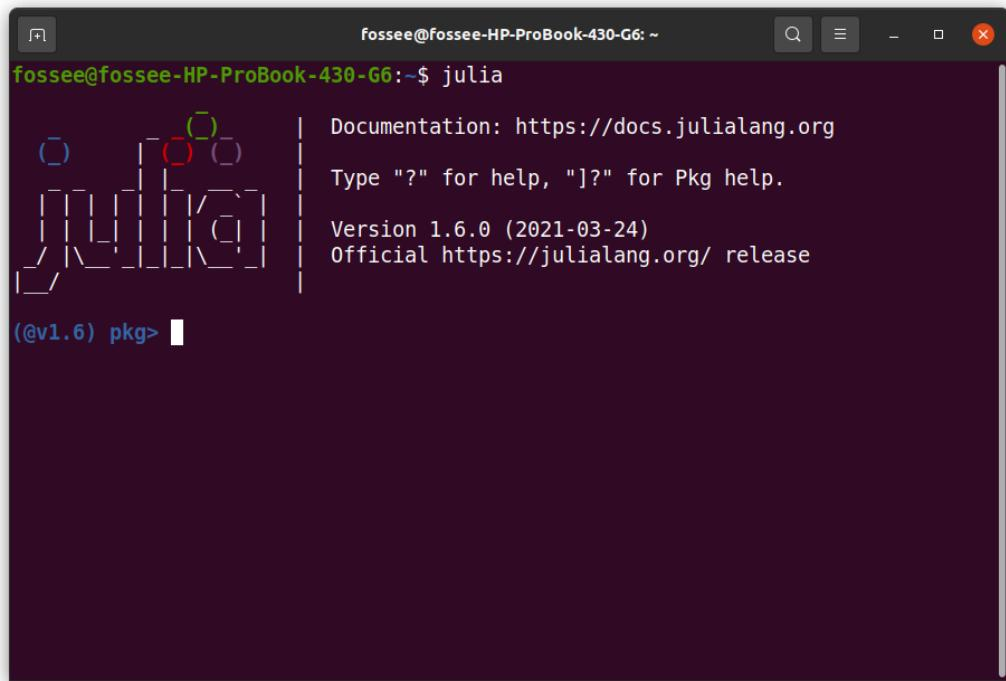

Figure 3.11: Linux terminal to enter Pkg REPL in Julia
2. From the Julia REPL, press **]** to enter the **Pkg** REPL. The moment you press **]**, you enter **Pkg** REPL, as shown in Fig. 3.11.